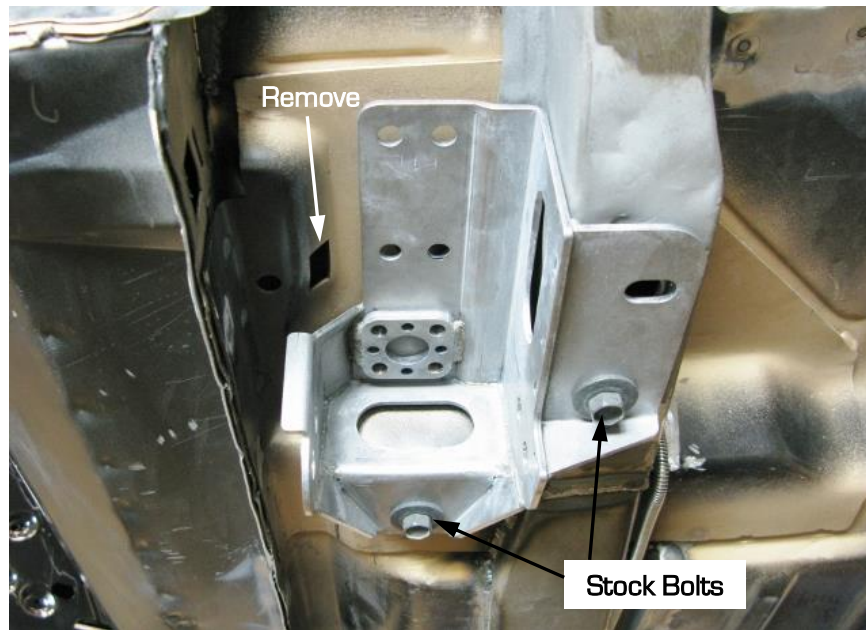

Figure 1 - Position Leaf Spring Pocket Assembly
6. Install the DSE pocket assemblies with your lower links in place of the factory leaf spring pockets using 2 of the 3 factory bolts (Figure 1 on the next page). The U-clip for the 3rd factory bolt that is not used can be removed. **NOTE:** Figure 1 has the Swivel Link removed to show the DSE pocket more clearly.